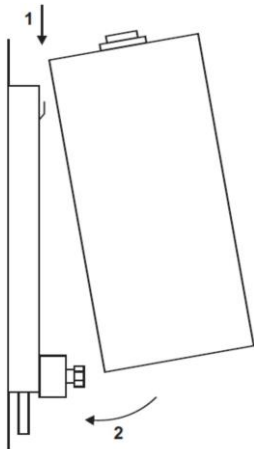

Fig.4
**c. Fit the boiler to the Jig - See Fig. 4**